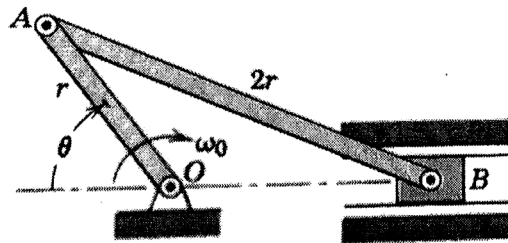

Fig Q8
8) Refer **FigQ8**. Determine the angular velocity of the link **AB** in terms of the angle  $\theta$  and angular velocity  $\omega_0$  of the link **OA** assumed constant. Use **absolute motion** method.